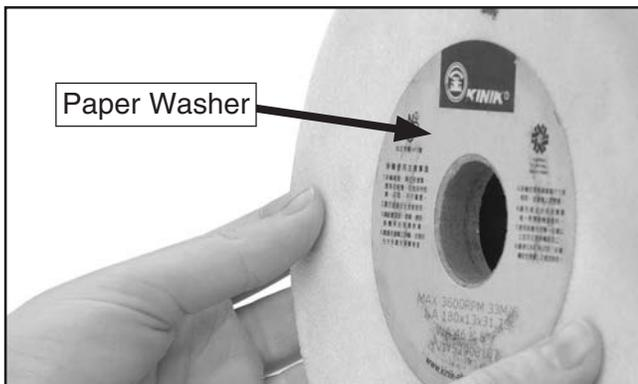

Figure 28. Important wheel paper washer.
3. Inspect paper washers on both sides of grinding wheel (see **Figure 28**).